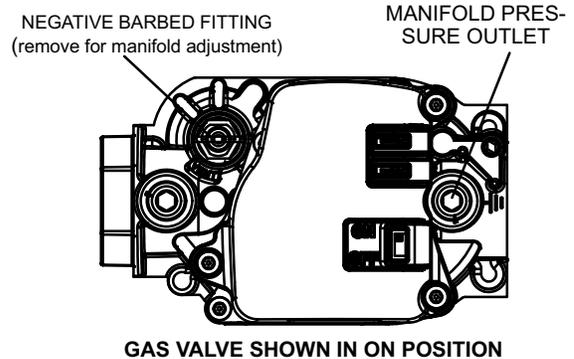

FIGURE 3
- 6 - Move gas valve switch to **OFF**. See figure 3.
- 7 - Wait five (5) minutes for any gas to clear out. If you then smell gas, **STOP!** Immediately call your gas supplier from a neighbor's phone. Follow the gas supplier's instructions. If you do not smell gas, go to the next step.
- 8 - Move gas valve switch to **ON**. See figure 3.